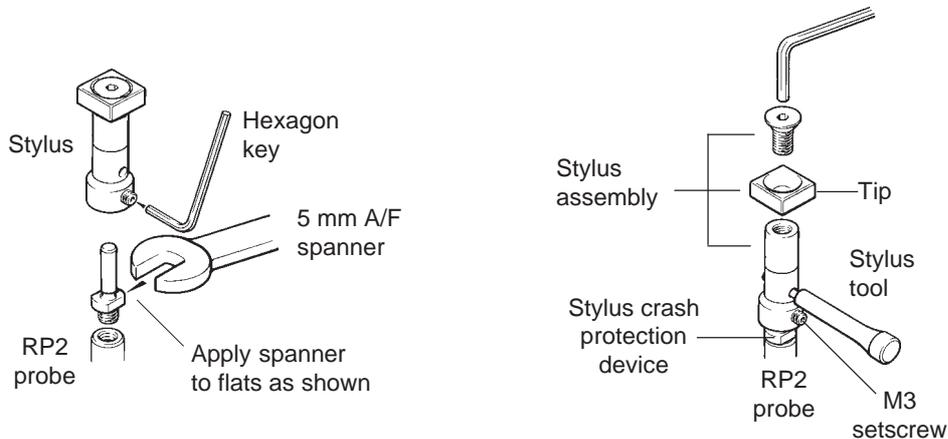

Figure 32
- Secure the stylus crash protection device to the RP2 probe using the 5 mm A/F spanner provided (see figure 32).